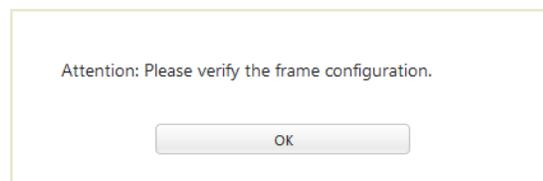

Figure 106 – Warning to verify the frame configuration of a re-planned treatment plan.
**Warning:** You will be prompted to verify the frame configuration on your first entry to the **Frame Configuration** tab of your re-planned treatment plan (cf. figure 106).